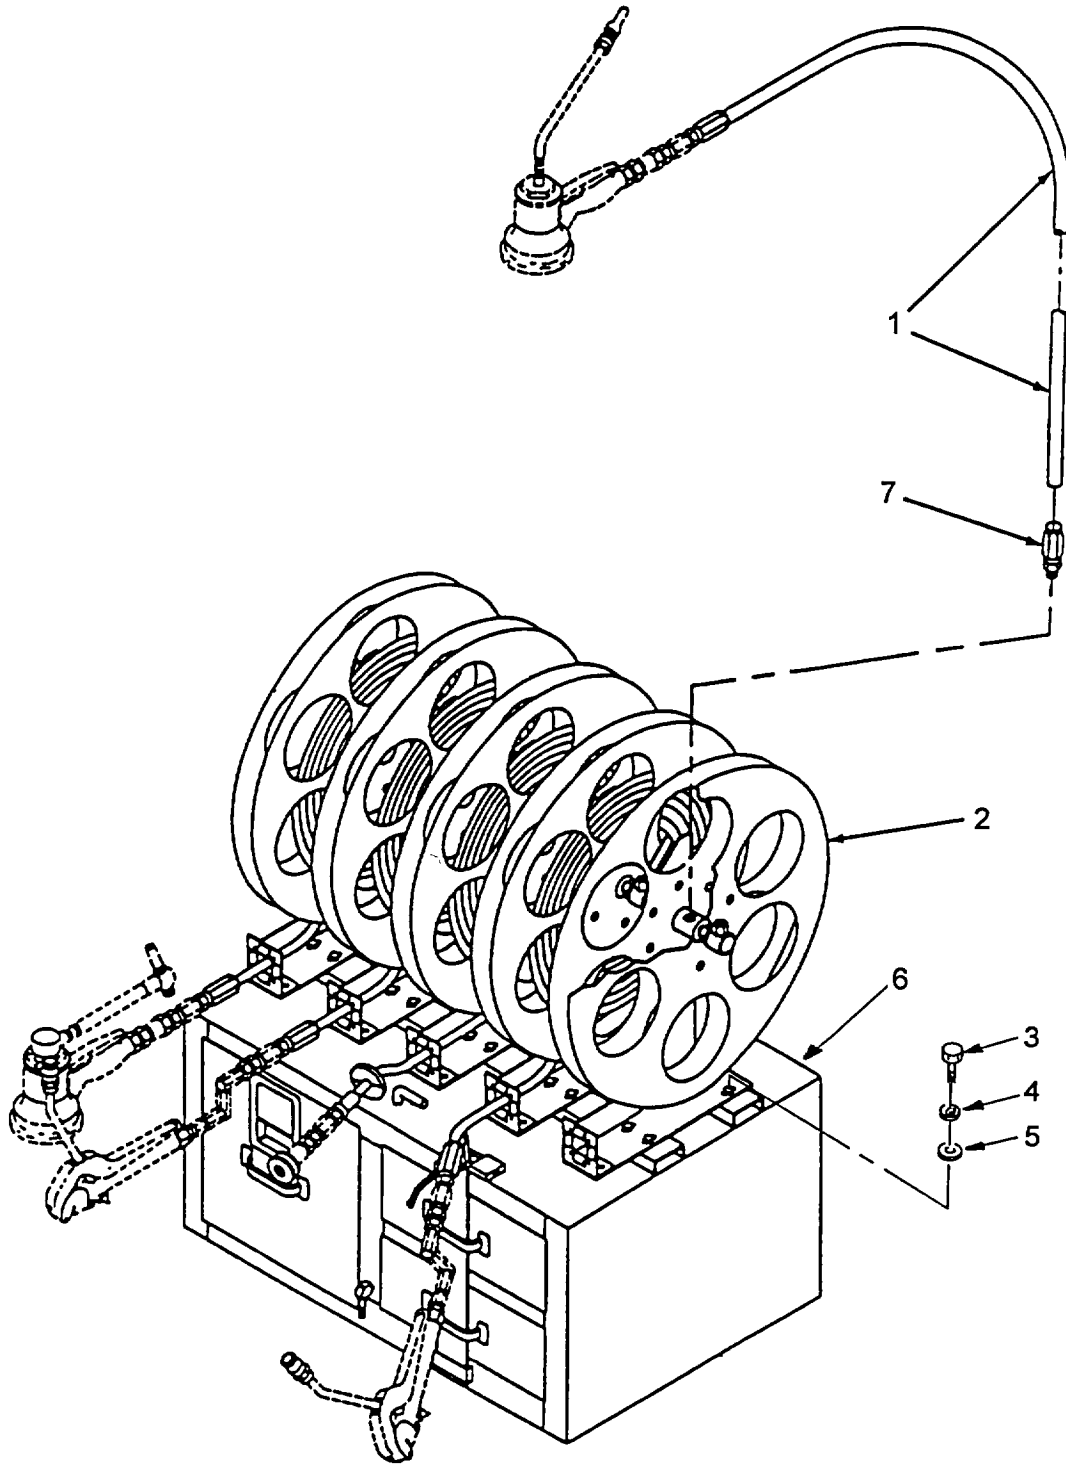
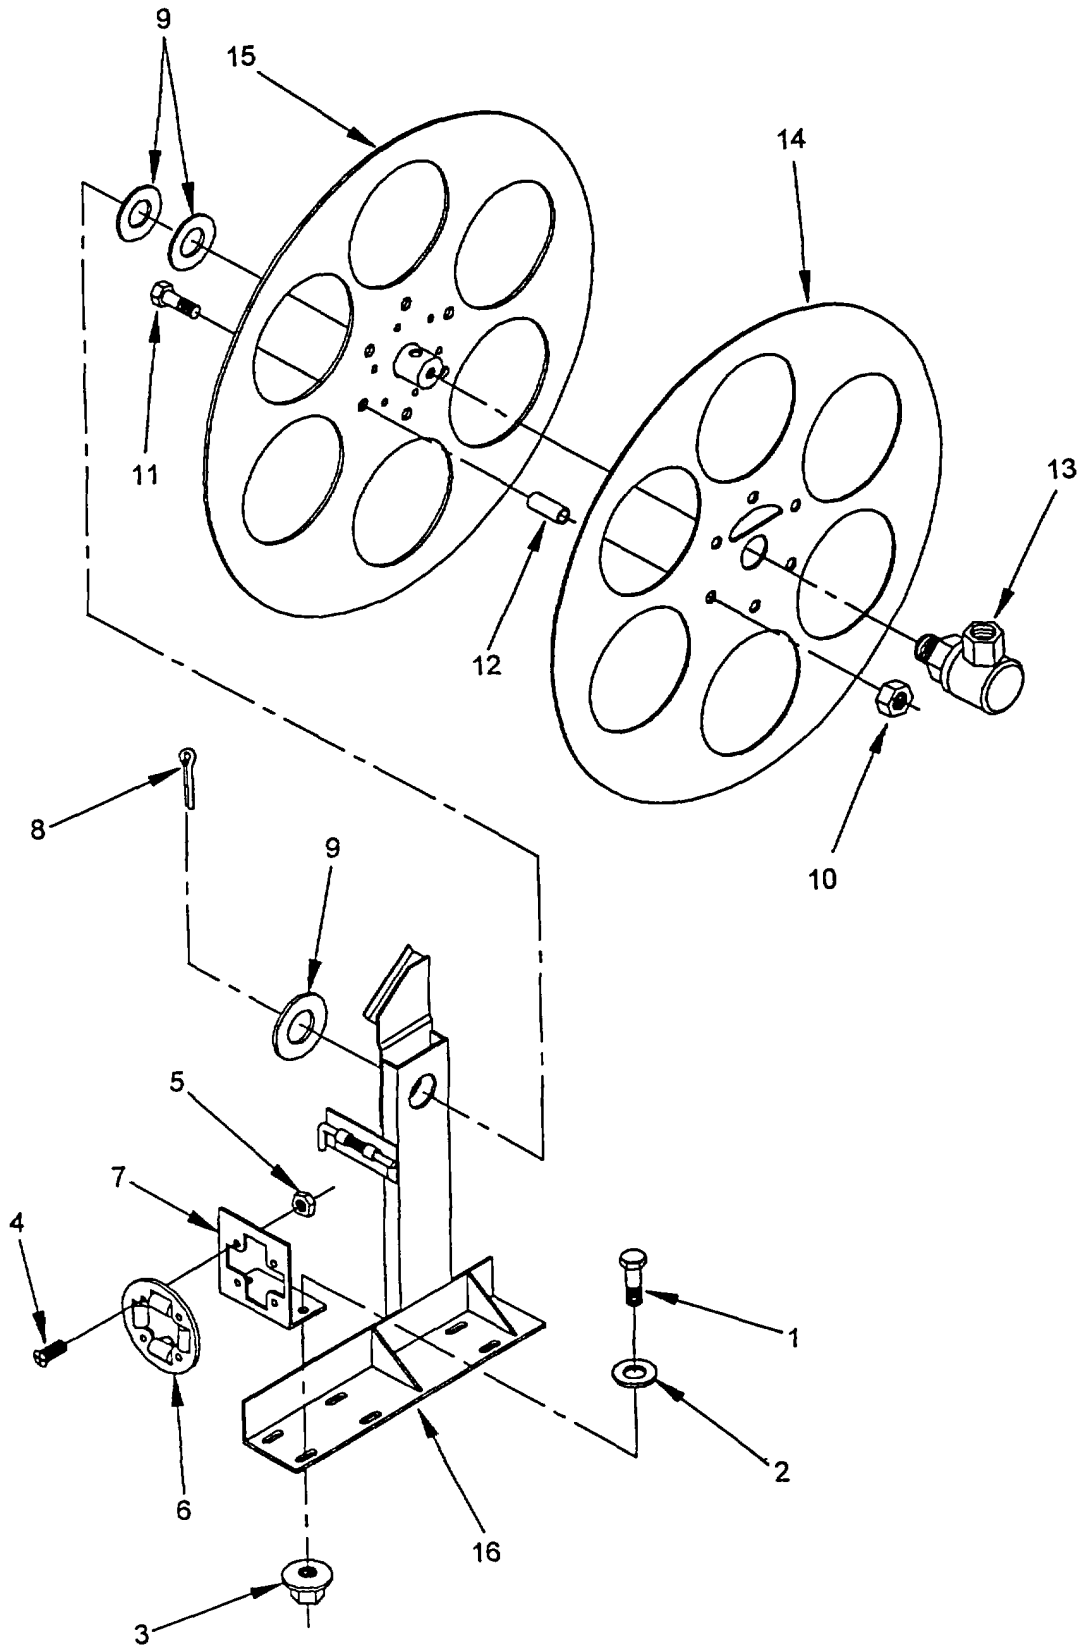

Figure 4-14. Reels and Hoses
Figure 4-15. Reel Assembly
a. Removal. (Refer to Figure 4-14).
- (1) Unspool hose assembly (1) from reel assembly (2). This makes reel lighter.
- (2) Remove four bolts (3), four lockwashers (4), four flat washers (5) from reel cabinet assembly (6). Remove reel assembly (2). Discard four lockwashers (4).
- (3) Remove hose assembly (1) from reel assembly (2) by loosening male fitting (7).
- (4) Remove male fitting (7) on both ends of hose.
b. Disassembly. (Refer to Figure 4-15.)
- (1) Remove capscrew (1), washer (2) and locking nut (3) to remove complete roller assembly. Disassemble roller assembly by removing screw (4), locknut (5) and roller (6) from bracket (7).
- (2) Remove cotter pin (8) and washers (9) to separate the reel from bracket (16).
- (3) Remove locking nuts (10), capscrews (11) and spacers (12).
- (4) Remove swivel (13) and separate reel halves (14 and 15).
d. Assembly. (Refer to Figure 4-15.)
- (1) Install capscrews (11) in reel half (15) and place spacers (12) on capscrews.
- (2) Assemble reel half (14) to reel half (15) and install locking nuts (10).
- (3) Wrap threads of swivel (13) with teflon tape and install swivel in reel.
- (4) Place two washers (9) on reel and install on bracket (16). Install other washer (9) and cotter pin (8).
- (5) Assemble roller (6) to bracket (7) and secure with screws (4) and locking nuts (5).
- (6) Place roller assembly bracket (7) on reel bracket (16) and install capscrews (1), washers (2) and locking nuts (3)
e. Installation. (Refer to Figure 4-14.)
- (1) Clean and wrap Teflon tape around threads of male fittings (7).
- (2) Connect male fittings (7) to ends of hose (1).
- (3) Screw male fitting (7) into reel assembly (2).
- (4) Place hose reel assembly (2) onto reel cabinet assembly (6).
- (5) Install four bolts (3), lockwashers (4), and flat washers (5) into top of reel cabinet assembly (2).